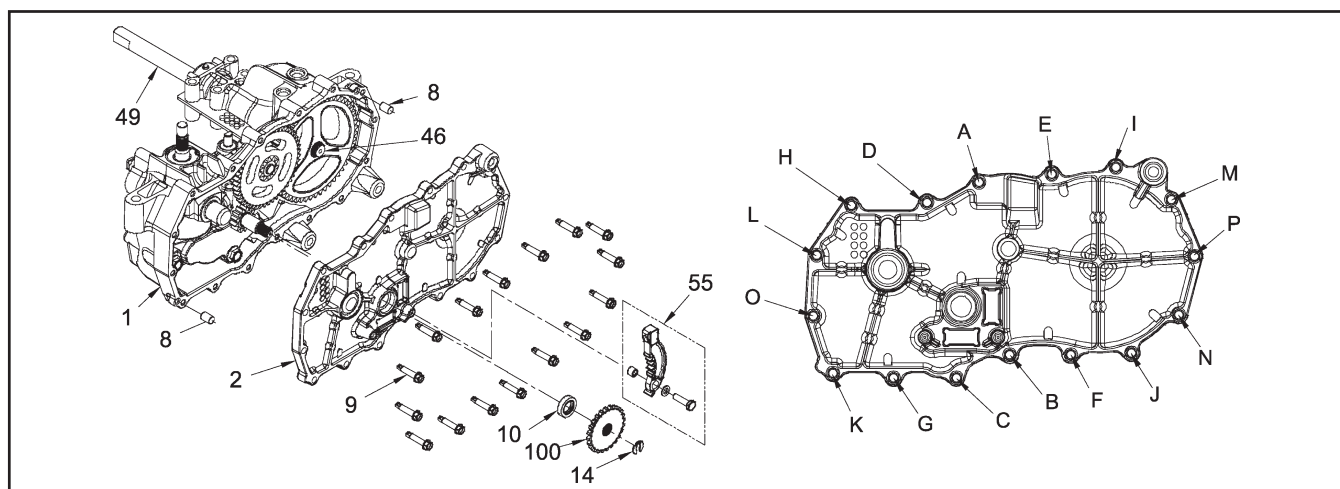

Figure 8. Cog Brake and Side Housing Assembly
Refer to Figure 8.
3. Remove the brake arm assembly (55), retaining ring (14) and cog brake disc (100).
4. Remove the lip seal (10).
5. Remove the housing screws (9).
6. Pull the side housing (2), leaving the axle (49) and bull gear (46) assembled in the main housing. It may be necessary to use screwdrivers at the pry points to break loose the sealant (positions H-L and M-P, Figure 8).
2. Install the locating pins (8), if not already installed.
3. Install the side housing (2). Use care not to smear the sealant bead.
4. Install the side housing screws (9). Refer to the screw tightening pattern in Figure 8 and torque specification in Table 6 on page 14.
6. Install the brake disc (100), retaining ring (14) and brake arm assembly (55).